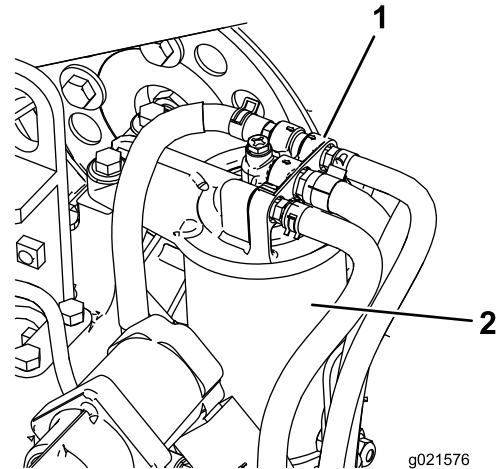

Figure 74
1. Clean the area around the fuel-filter head (Figure 74).
2. Remove the filter and clean the filter head mounting surface (Figure 74).